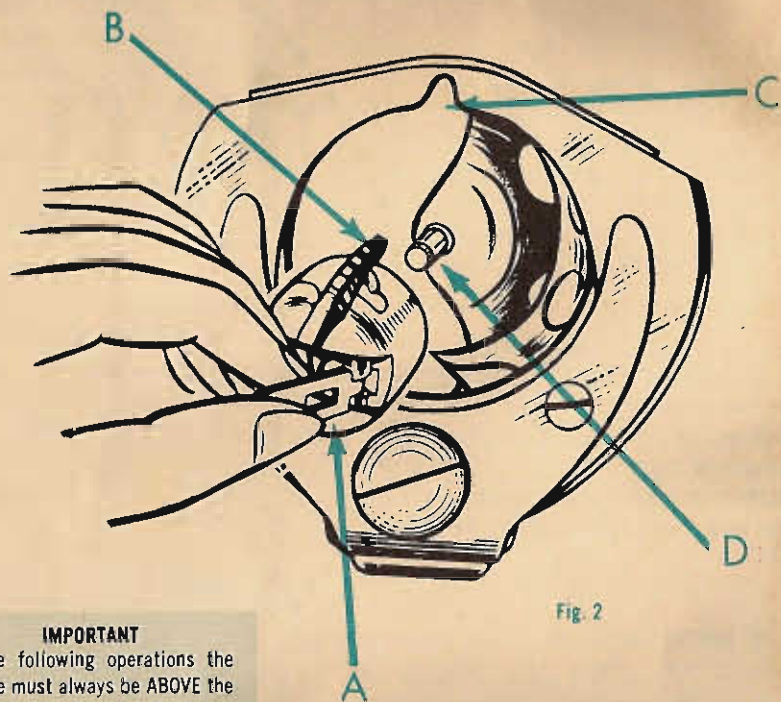
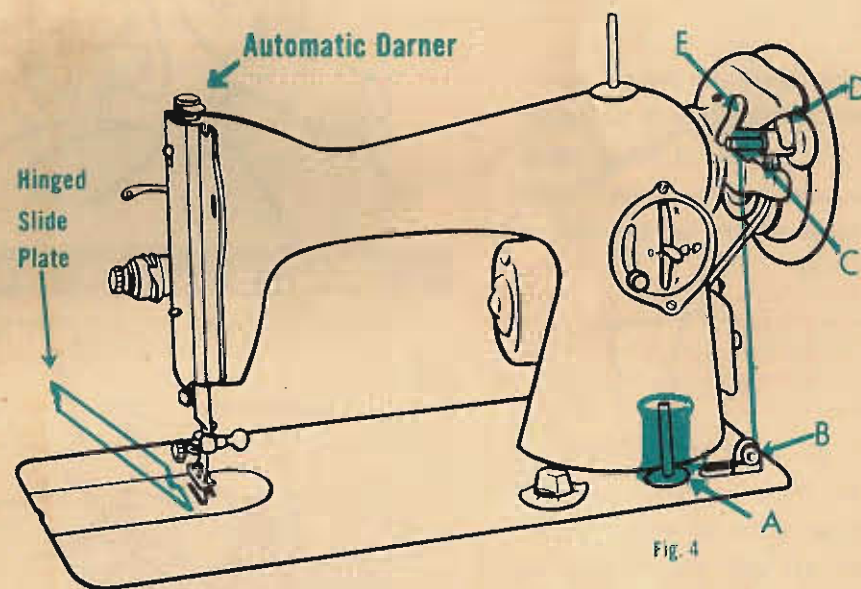

Fig. 2
Fig. 4
Pull the hinged plate, (Fig. 4). With left thumb and forefinger, open the hinged latch (A) (Fig. 2) at the front of the bobbin case and hold securely as you withdraw bobbin case from around the holder post (D). When held in the above manner the bobbin will not fall out of the bobbin case.
**Hinged Plate:** This exclusive improvement makes it possible to reach the bobbin case easily by giving you much more hand room than in any other machine (Fig. 4, page 5).